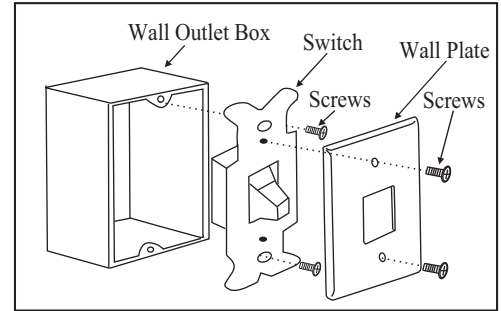

Figure 11
1. Disconnect the power and remove the existing wall plate and switch from the wall outlet box (Figure 11).